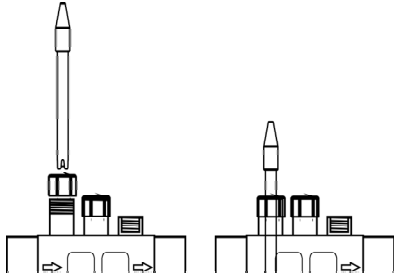

Fig. 2
1. Insert the pH and ORP probes supplied with the equipment in the corresponding sockets of the probe holder. (Fig. 2).